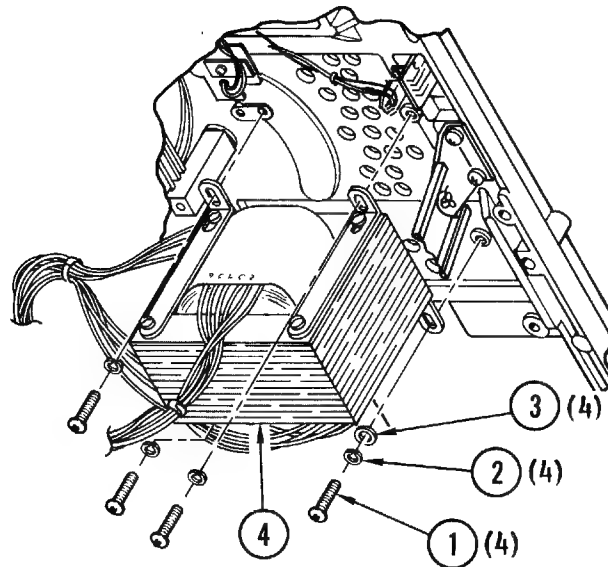

Figure 4-31. Transformer Assembly
4-49. Removal and Replacement (Figure 4-31). To replace the transformer assembly, place the transport in service access position (paragraph 4-3) and proceed as follows:
- e. Support transformer (4, Figure 4-31) and remove four screws four (1), four lockwashers (2), and four flatwashers (3), and remove from drive.